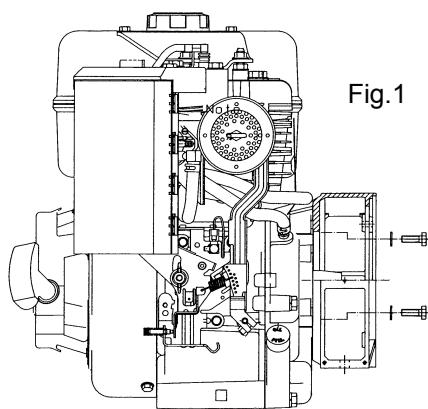

Fig.1
-) mount the front cover on the motor, fixing it with the appropriate screws and applying a tightening torque of $48\pm7\%$ Nm if using M10 screws or $21\pm7\%$ Nm for M8 screws (figure 1)